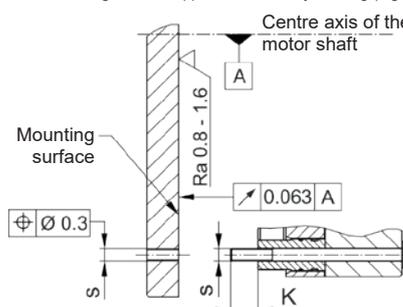

Fig. 5
- On hub designs the tolerances of the hub bore (10) and the shaft must be selected so that the hub toothing (10) is not widened. Widening of the toothing leads to the rotor (3) jamming on the hub (10) and therefore to brake malfunctions. Recommended hub – shaft tolerance H7/k6. If the hub (10) is heated for better joining, the O-ring (11) must be removed beforehand and re-mounted after hub installation. The max. permitted joining temperature of 200 °C must not be exceeded.
- Dimensioning of the key connection according to the requirements shaft diameter, transmittable torque and operating conditions must be carried out. For this, the corresponding user data must be known or the customer must carry out the dimensioning according to the valid calculation basis DIN 6892. For the calculation, a hub quality of $Re = 300 \text{ N/mm}^2$ should be used. The length of the key should lie over the entire hub (10).
- The mounting dimensions and the tapped holes s with depth $K + 2 \text{ mm}$ ($K = \text{screw projection}$) must be provided according to the Catalogue or the applicable assembly drawing (Fig. 5).